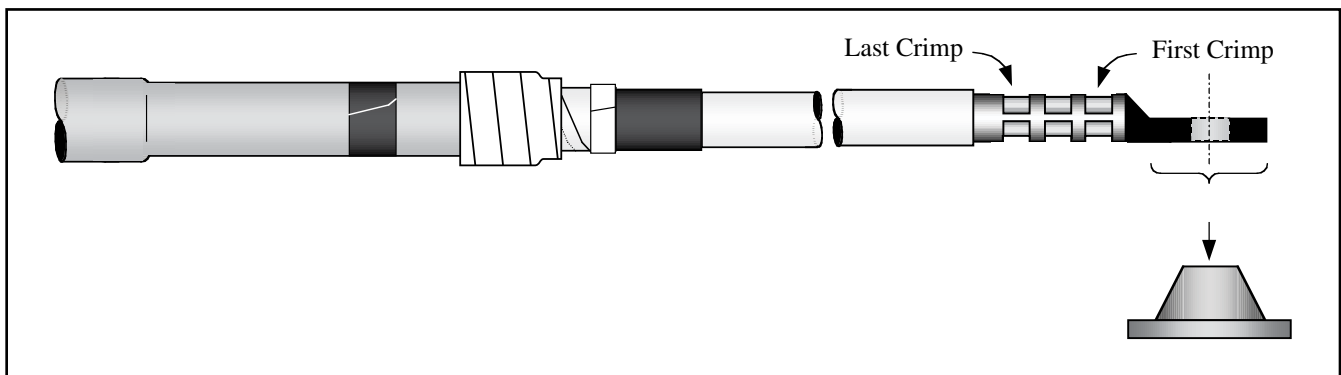

Figure 22
- (b.) **Ensure that each lug face is parallel to equipment bushing or lug connection interface (Figure 22).**
- (c.) Crimp terminal lug according to manufacturer recommendations. Start at the upper end as shown (Figure 22). Remove all traces of oxide inhibitor that may have come out of lug barrel during crimping.